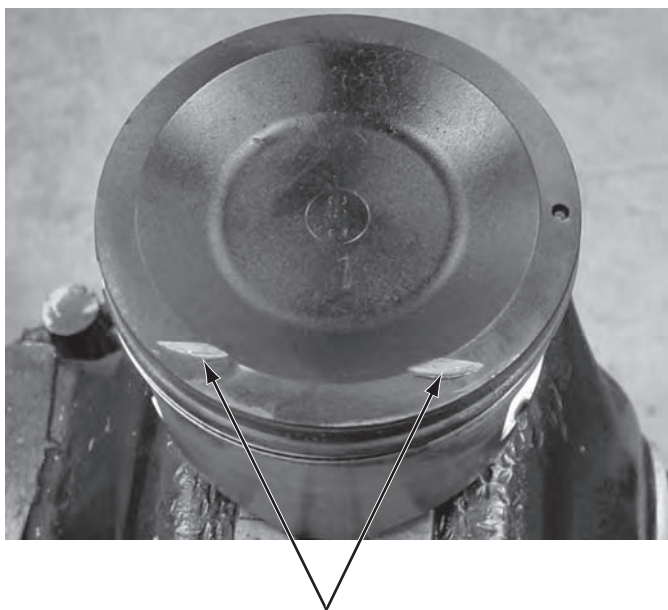

FIGURE 10.20 During valve float, open exhaust valves sometimes contact pistons, leaving “witness marks.” (Courtesy of Tim Gilles)
- During valve float, open exhaust valves sometimes contact pistons, leaving “witness marks” (**Figure 10.20**).